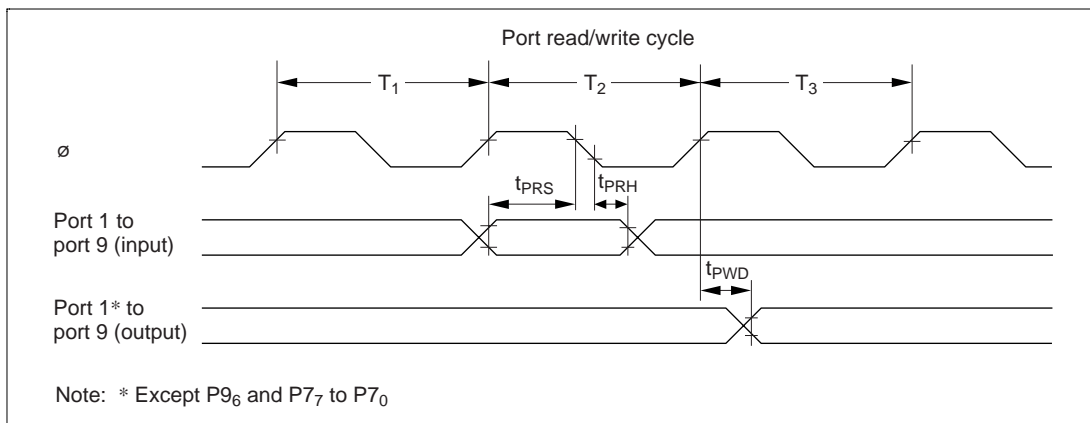

Figure 19.17 I/O Port Input/Output Timing
19.3.6 I/O Port Timing	Figure 19.17